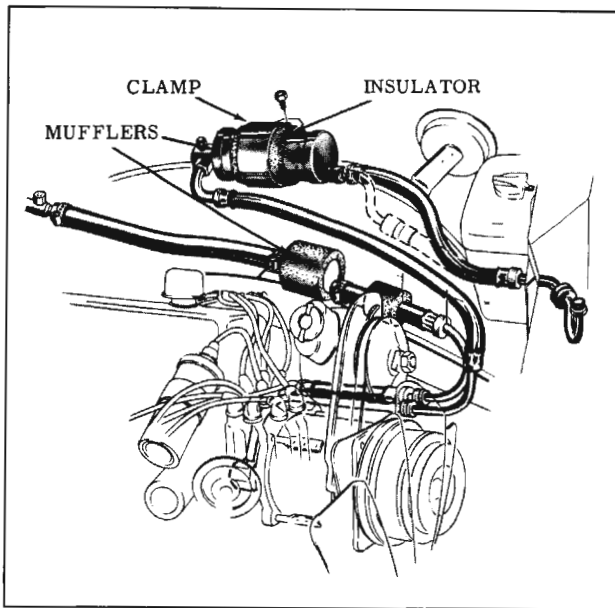

Fig. 15-135 Muffler Assemblies
2. Disconnect compressor discharge hose and condenser to muffler hose from muffler. Cap hoses. (Fig. 15-135)
1. Position muffler in clamp as shown in Fig. 15-135. Be sure muffler outlet is positioned down so that muffler will drain towards the condenser. Center insulator in clamp and install clamp screw.
2. Loosen inlet and outlet clamps at muffler hose connection. (Fig. 15-135)
1. Position muffler to hoses with muffler outlet (off-center pipe) towards compressor and position outlet down so muffler will drain toward compressor. (Fig. 15-135)